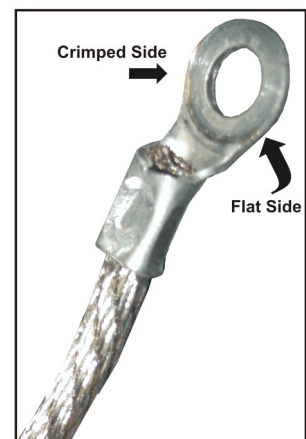

Figure 5-17 Anode Wire
- Align the ring terminal on the anode wire with the mounting position, ensuring that the crimped side of the wire is facing out (**Figure 5-17**). Tighten the anode screw. **NOTE:** *Route the anode lead away from nearby metal surfaces.*